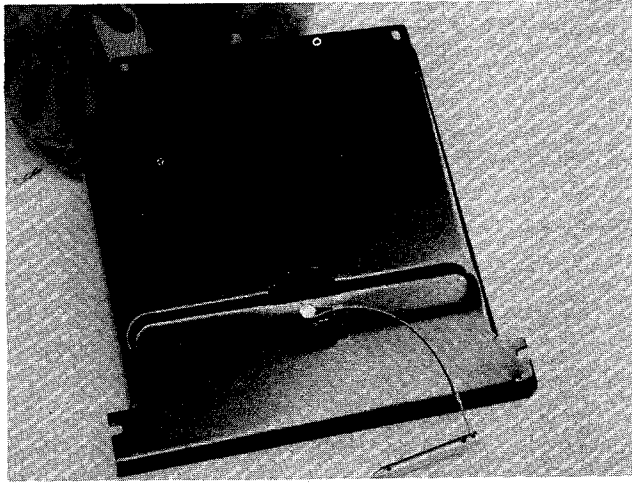

FIGURE 30.
2. Place the hitch bracket through the hitch plate. Secure with hex bolt (K), lock washers (L) and hex nut (M).
← Attach the looped end of hitch pin (O) under head of bolt. See figure 30.